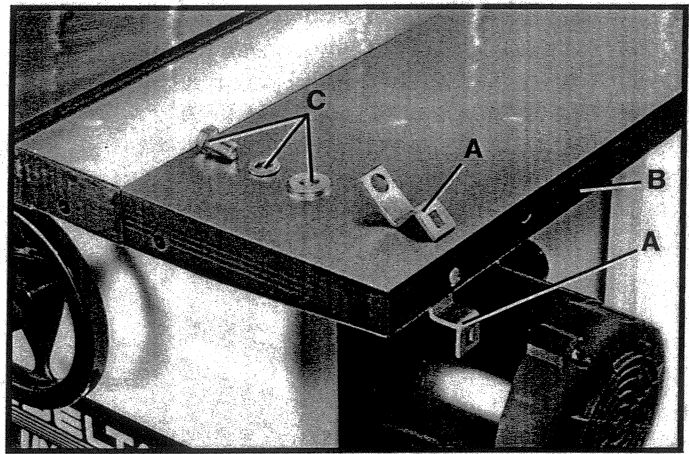
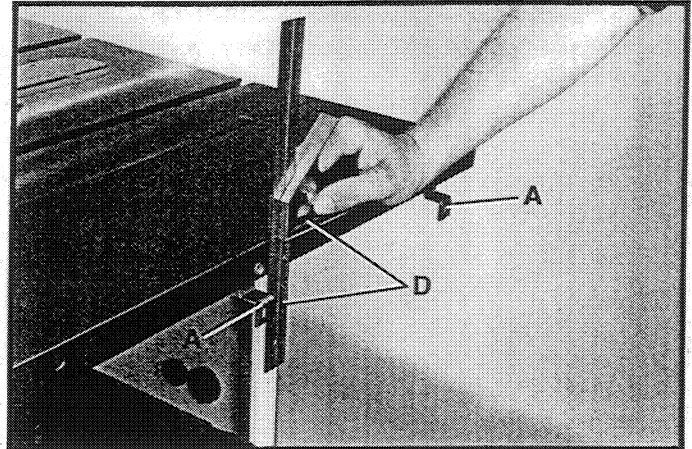

Fig. 15
Fig. 16
1. Assemble Z-brackets (A) Fig. 15, to the inside edge of right side of extension wing (B) as shown, using three 7/16-20 x 3/4" hex head screws, lockwashers, and flat washers (C). **NOTE:** Using a square (D) Fig. 16, make certain Z-brackets (A), two of which are shown, are perpendicular to the saw table as shown. Also lift upward on Z-brackets while tightening screws.